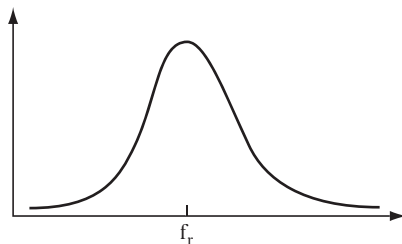
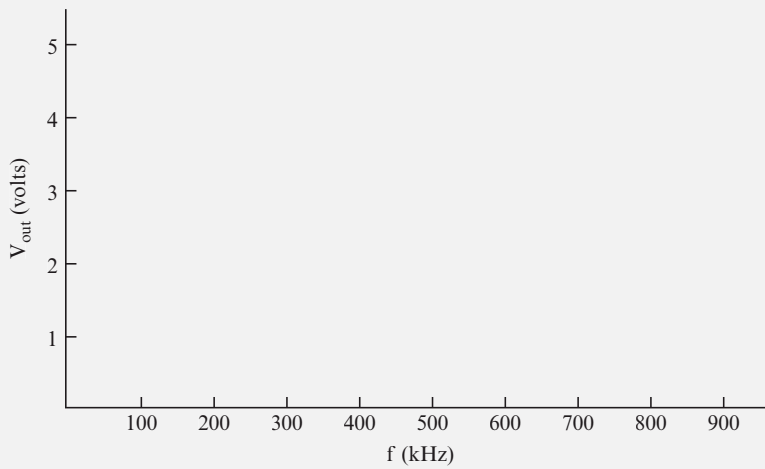

FIGURE 7.20
FIGURE 7.23
19 The output curve for a circuit that passes a band of frequencies around the resonance frequency (such as the curve shown in Figure 7.20) was discussed in the last few problems.
8. In the blank graph shown in Figure 7.23, plot V_{out} versus f_{in} with the voltage on the vertical axis and the frequency on the X axis. The curve should have the same shape as the curve shown in Figure 7.20.